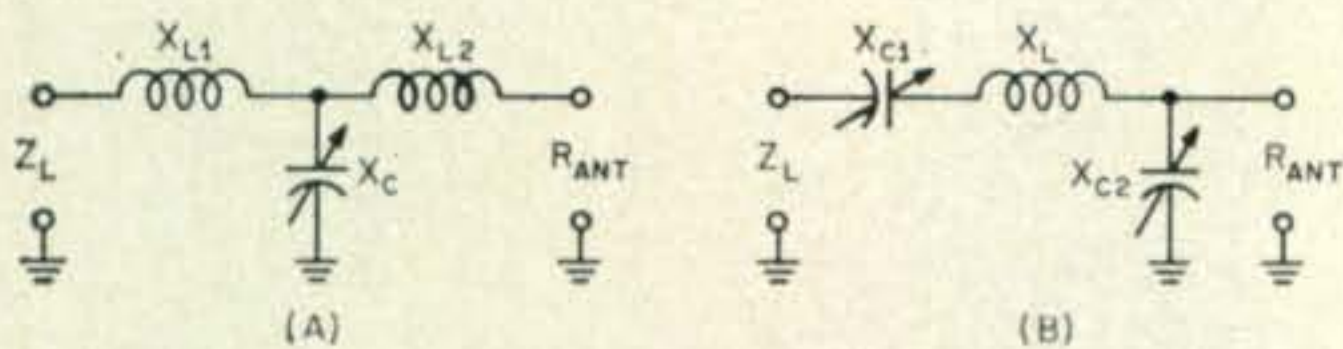

Fig. 3—Circuits of the T-network (A) and L-network (B) for use with transistorized r.f. power amplifiers. The design procedure is covered in the text.
Figure 3(A) shows a T-section network for impedance matching. Experiments indicate that the two inductive elements (not coupled) can be computed closely enough so that only the capacitor need be made variable. However, if the output load impedance represented by the antenna is complex, or is not entirely predictable, adjustment of X_{L2} would be useful. For a Q of 12 to 15, the values of L and C are quite practical for very low load impedances.
Figure 3(B) shows a resonant L-network which permits convenient loading adjustment by making X_{C2} , or a portion of it, variable. The values of L and C are quite practical at high frequencies, becoming rather cumbersome below five megacycles or so.
Very low load impedances will inevitably reduce the efficiency of the tuning circuit used, since loss resistance becomes an appreciable percentage of the total load. For this reason, large wire or tubing should be used for the coils, and connections should be well made. To further increase tank efficiency, the lowest suitable value of loaded Q is recommended. While the circuits in fig. 3 both furnish excellent harmonic attenuation, a Q of 10 or more should be used for feeding a selective antenna which does not respond at the second harmonic. If the antenna is not definitely known to conform to these requirements, a Q of 12 to 15 should be chosen. A Q of 5 to 7 is satisfactory for interstage coupling, or where additional selectivity appears between the stage's output and the antenna. The rule for tank efficiency is simple: high unloaded Q , low loaded Q .
The pi-network is very good for vacuum tube amplifiers and for very low-power transistor circuits where Z_L is several hundred ohms or more. Where the load impedance is much less, the other two circuits are useful. Figure 3(B) may be used only when the load is less than the antenna resistance. An operating constant, D , has been introduced to simplify computation and notation. Slide-rule answers are adequately